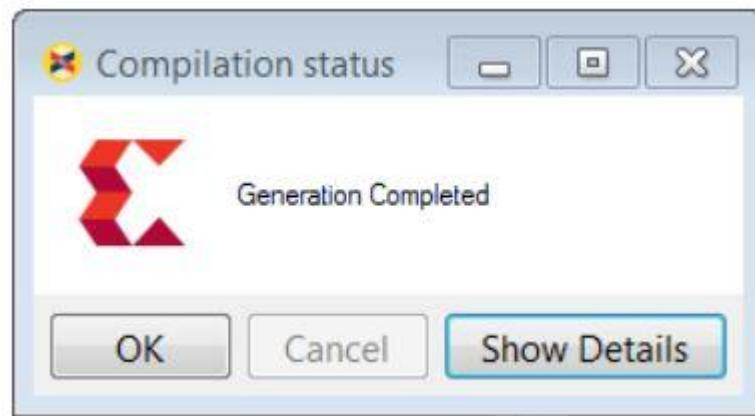

Figure 34: Generation Complete.
- e. Click **Generate** to compile the design into hardware. After Generation, **Compilation Status** will be prompted as shown in the figure 34.